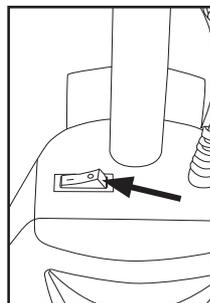

Fig. 5
1. To turn the vacuum on, push the switch located on the dust compartment to the (I) position (Fig. 5).
2. To turn the vacuum off, push the switch located on the dust compartment on the (0) position.